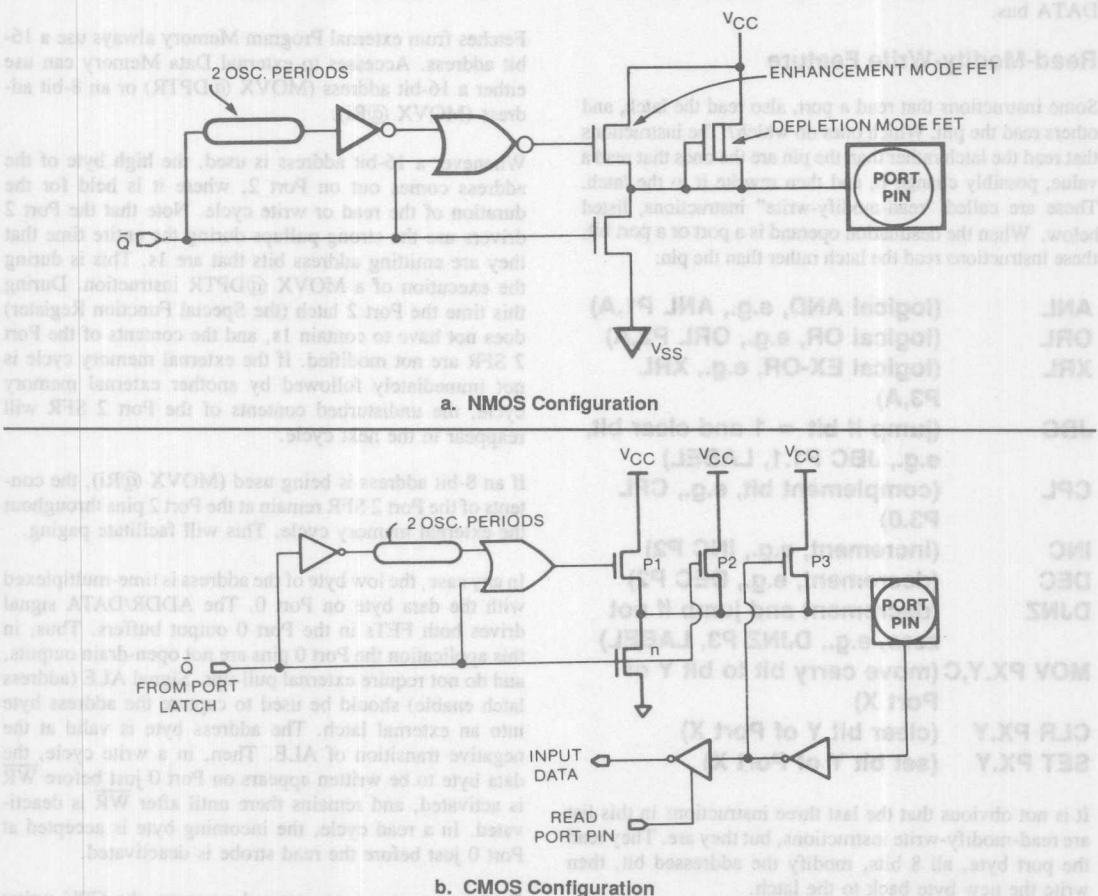

Figure 2-6. Ports 1 and 3 NMOS and CMOS Internal Pull-up Configurations.
*See Figure 2-6 for details of the internal pull up.
If the change requires a 0-to-1 transition in Port 1, 2, or 3, an additional pull-up is turned on during S1P1 and S1P2 of the cycle in which the transition occurs. This is done to increase the transition speed. The extra pull-up can source about 100 times the current that the normal pull-up can. It should be noted that the internal pull-ups are field-effect transistors, not linear resistors. The pull-up arrangements are shown in Figure 2-6.
Transistor pFET 1 in Figure 2-6 is turned on for two oscillator periods after a 0-to-1 transition in the port latch. While it's on, it turns on pFET 3 (a weak pull-up) through the inverter. This inverter and pFET 3 form a latch which holds the 1.